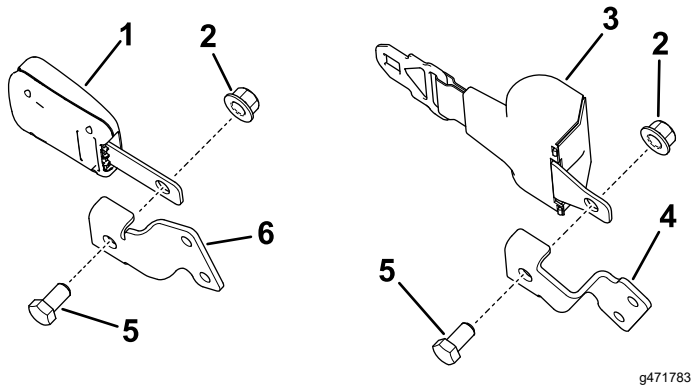

Figure 9
- Assemble the seat belts by attaching the buckle and tongue to the inside of the seat-belt brackets using 2 hex-head bolts (1/2 x 1 inch) and 2 locknuts (1/2 inch) as shown in Figure 9.